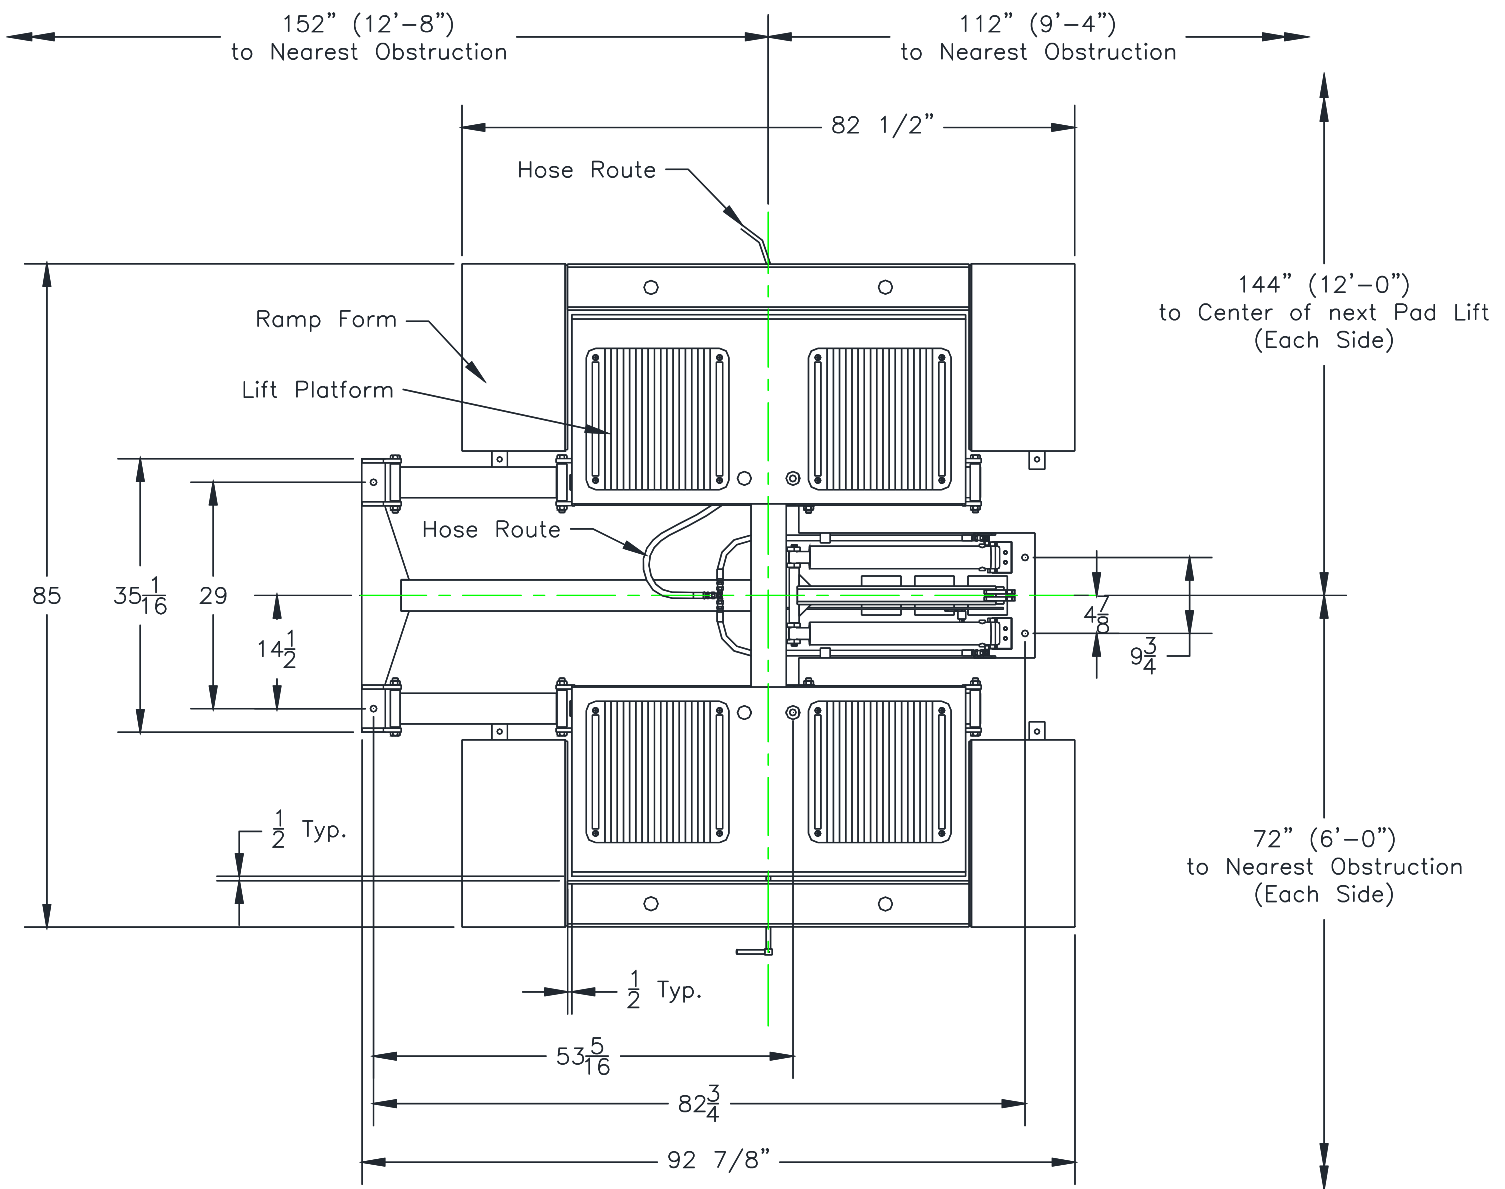

Fig. 1A General Surface Mount Layout
2. Place lift and ramps in desired location. The ramp should be located to allow a minimum 1/2" clearance around the lift platform, See Fig.1A.